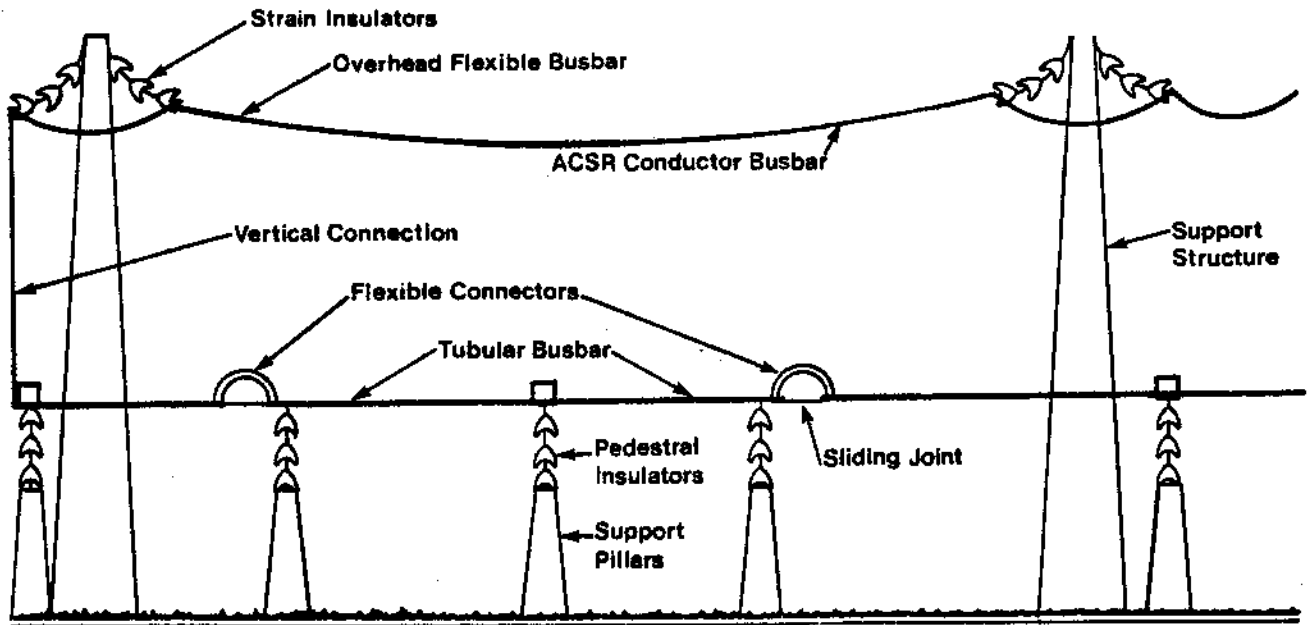

Figure 3: Outdoor Busbar System: Flexible and Tubular Busbars.
3.2.1 Construction. Figure 3 shows part of a typical outdoor busbar system comprising of: